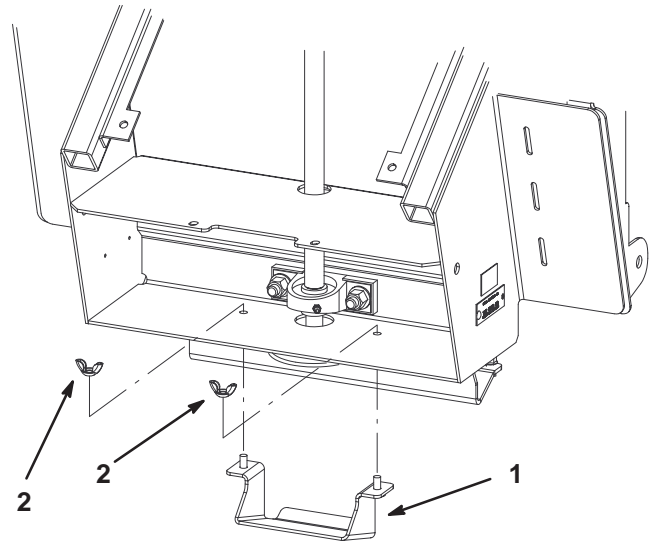

Figure 15
1. Remove the 2 wing nuts (5/16 inch) securing the pulley guard to the bottom of the bagger (Fig. 15).
7. Install the pulley guard to the bottom of the bagger with 2 wing nuts (5/16 inch) (Fig. 15).